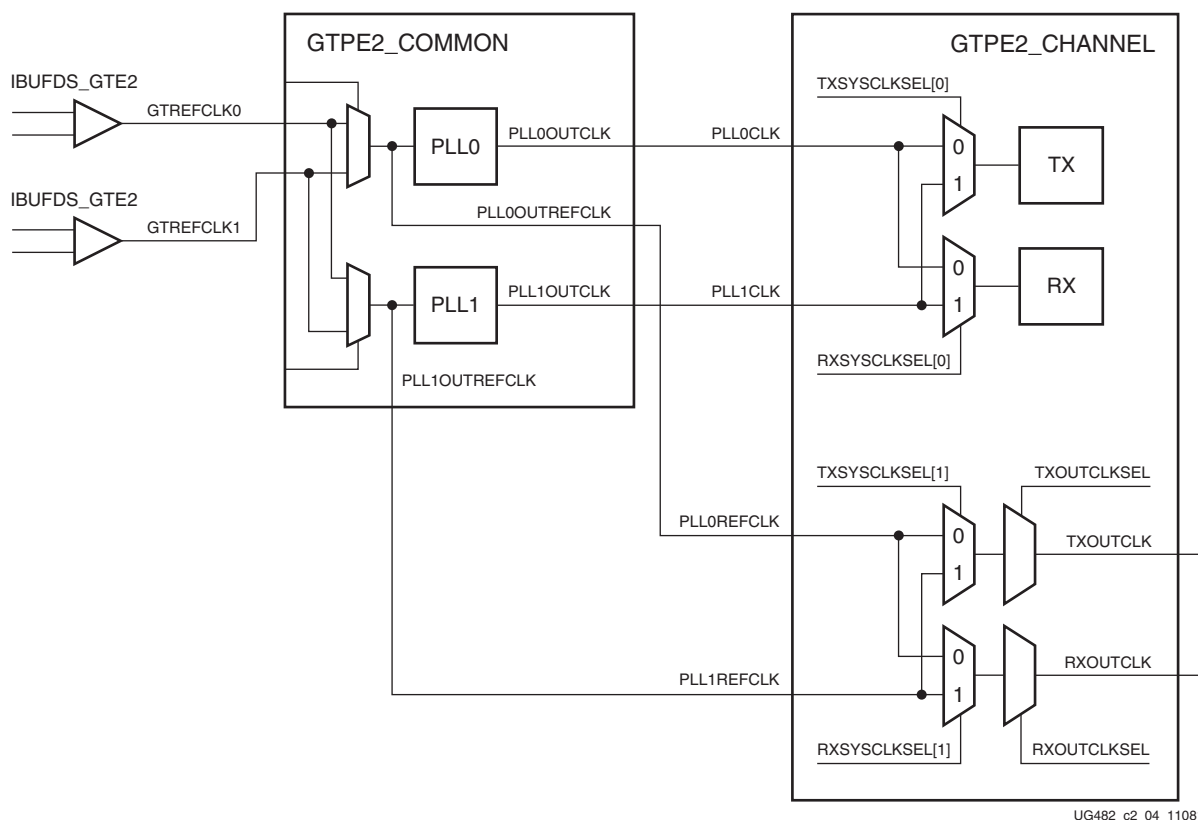

Figure 2-4: External Reference Clock Use Case
Each Quad has two dedicated differential reference clock inputs that can be connected to external reference clock sources. An IBUFDS_GTE2 primitive must be instantiated to use these dedicated reference clock pin pairs. The user design connects the IBUFDS_GTE2 output (O) to the GTREFCLK[0/1], GTEASTREFCLK[0/1] or GTWESTREFCLK[0/1] ports of the GTPE2_COMMON primitive where the reference clock selection multiplexer is located. Depending on the line rate requirement, the user design has the flexibility to use different combinations of PLL0 or PLL1 to drive the TX and/or RX datapath, as shown in Figure 2-4.